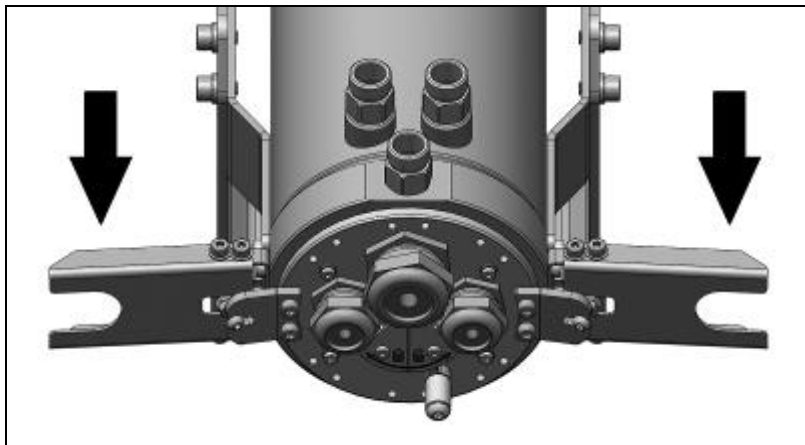

Figure 38: Unlocking of the hinge
5. Dismount in reverse order (**Figure 38**).